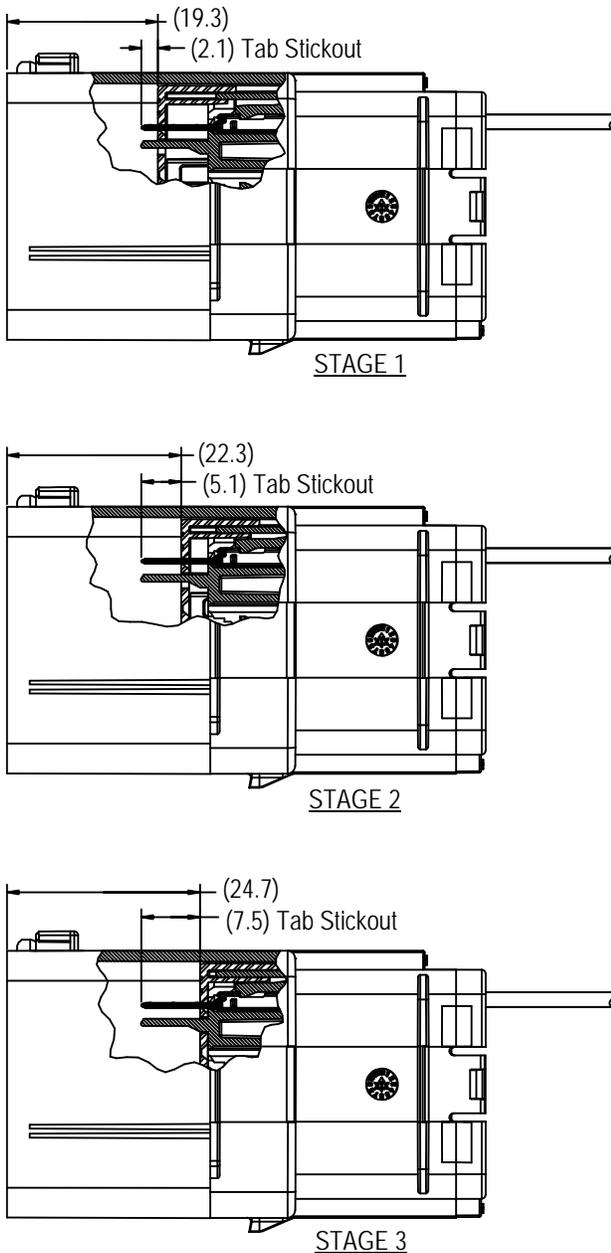

Figure 2
The cap connector is shipped as one piece with the TPA in the open position (1st STAGE). The TPA is actuated when moved to the lock position (2nd STAGE). When the connectors are mated, the TPA moves to the final-lock position (3rd STAGE). Refer to Figure 2 for TPA staging positions.
2. Ensure that the TPA of the connector is in the 1st STAGE (as shipped) position. If it is not, use needle nose pliers to grasp the center rib on the TPA and pull it to the proper position. **DO NOT** remove the TPA completely from the housing. See Figures 2 and 3.
5. After all contacts are inserted, push the TPA to the 2nd STAGE. Use an adequate tool or fixture and make sure to avoid pushing the tips of the contacts. The TPA is in the 2nd STAGE when the tips of the contacts extend approximately 5.1 mm [.200 in.] from the cavities of the TPA. Refer to Figure 2 for 2nd STAGE position.
- b. Carefully slide the TPA into the cap connector until it “clicks” into the 2nd STAGE position. Refer to Figure 2 for proper TPA position.